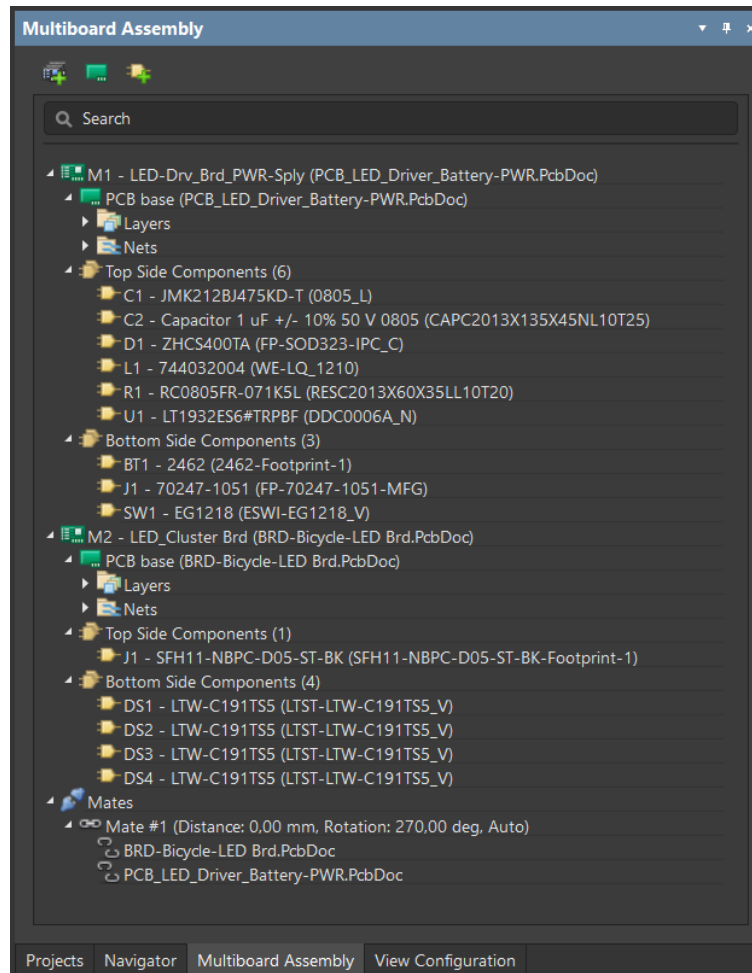

Figure 37. Multi-Board Assembly panel
72. Expand the different Branches, as seen in Figure 37, to see details of the Boards and Mate #1.